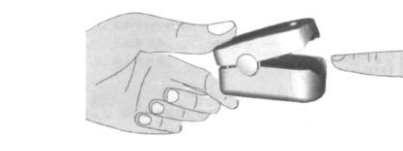

Figure 4 Put finger into the Oximeter
The Fingertip Oximeter can be used to measure pulse oxygen saturation (SpO₂) value and pulse rate (PR); simply put your finger onto sensor as indicated in Figure 4 andSpO₂ value and pulse rate value will be displayed on the screen.
- clip the finger, as shown in Figure 4.